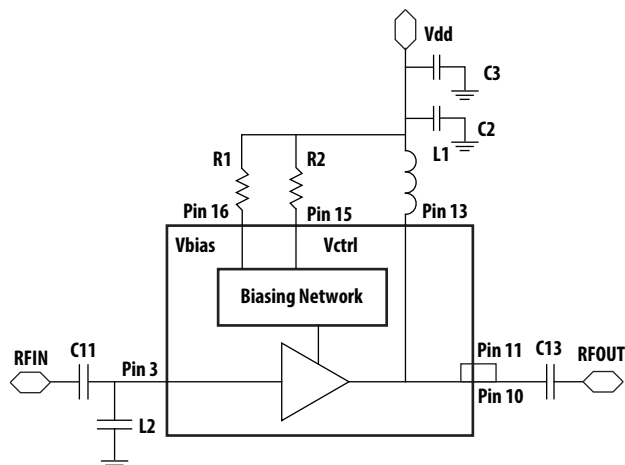

Figure 46. Application Circuit Diagram
1. V_{bias} and V_{ctrl} can be externally controlled by change external biasing resistors $R_1 = R_{bias}$ and $R_2 = R_{ctrl}$ (as shown in Fig. 46).
1. Vbias and Vctrl can be externally controlled by change external biasing resistors R1 = Rbias and R2 = Rctrl (as shown in Fig. 46).
1. V_{bias} and V_{ctrl} can be externally controlled by change external biasing resistors $R1 = R_{bias}$ and $R2 = R_{ctrl}$ (as shown in Fig. 46).
- V_{bias} and V_{ctrl} can be externally controlled by change external biasing resistors $R1 = R_{bias}$ and $R2 = R_{ctrl}$ (as shown in Fig. 46).